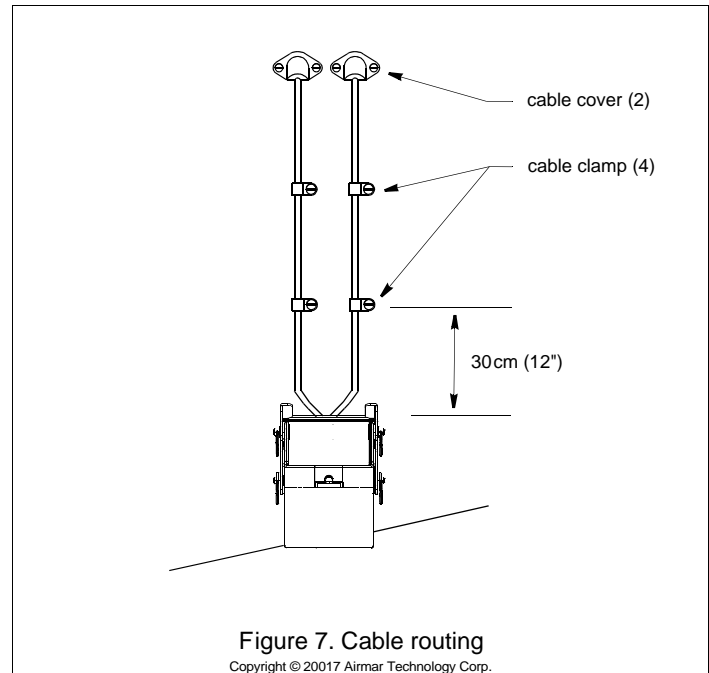

Figure 7. Cable routing
1. If holes must be drilled through the transom, choose a location **well above the waterline** (see Figure 7). Check for obstructions such as trim tabs, pumps, or wiring inside the hull. Mark the locations with a pencil. Drill each hole using a 21 mm or 13/16" bit to accommodate the connector.